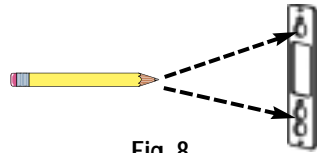

Fig. 8
- 1) Hold the mounting bracket against the wall and mark two holes for the long mounting screws—*see Fig. 8.*